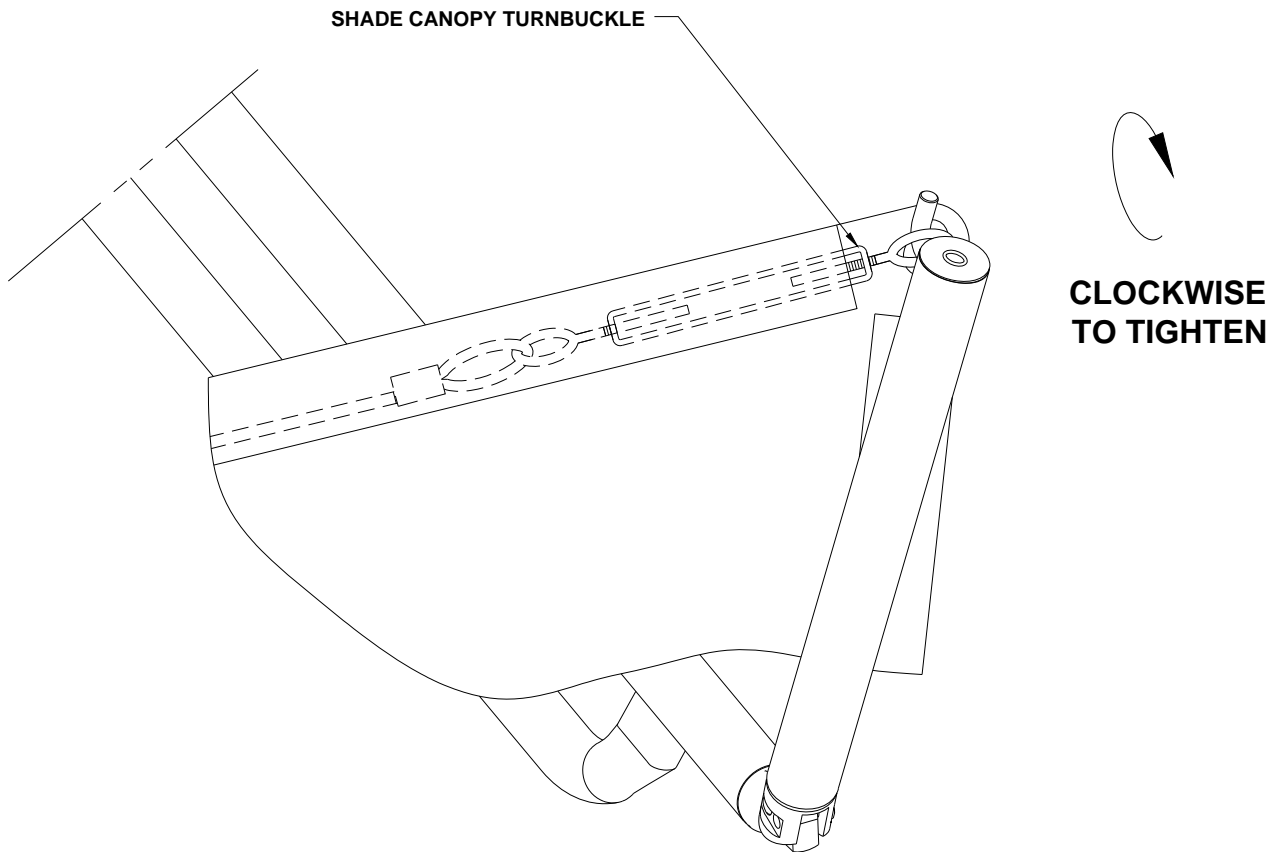

Figure 18: Tightening/Loosening Shade Canopy Turnbuckle
4. Lay ShadePlay canopy over rafters and orientate it so that each tensioning arm has a canopy corner. See Figure 18.
6. Continue to tighten canopy by carefully pulling tensioning arms down into 'Closed Position'. If canopy is too tight to pull arm down, loosen turnbuckle tension a small amount. See Figure 18.
7. After all tensioning arms are in 'Closed Position' look around canopy for major wrinkles in fabric. The majority of wrinkles can be removed by moving the tensioning arms back into the 'Open Position' and tightening each turnbuckle a small amount. Repeat this process, tightening the turnbuckles only a small amount each time until the major wrinkles are eliminated. Minor wrinkles will disappear with time in the environment and in the stretched state. Tighten all turnbuckles evenly to spread tension. See Figure 18.